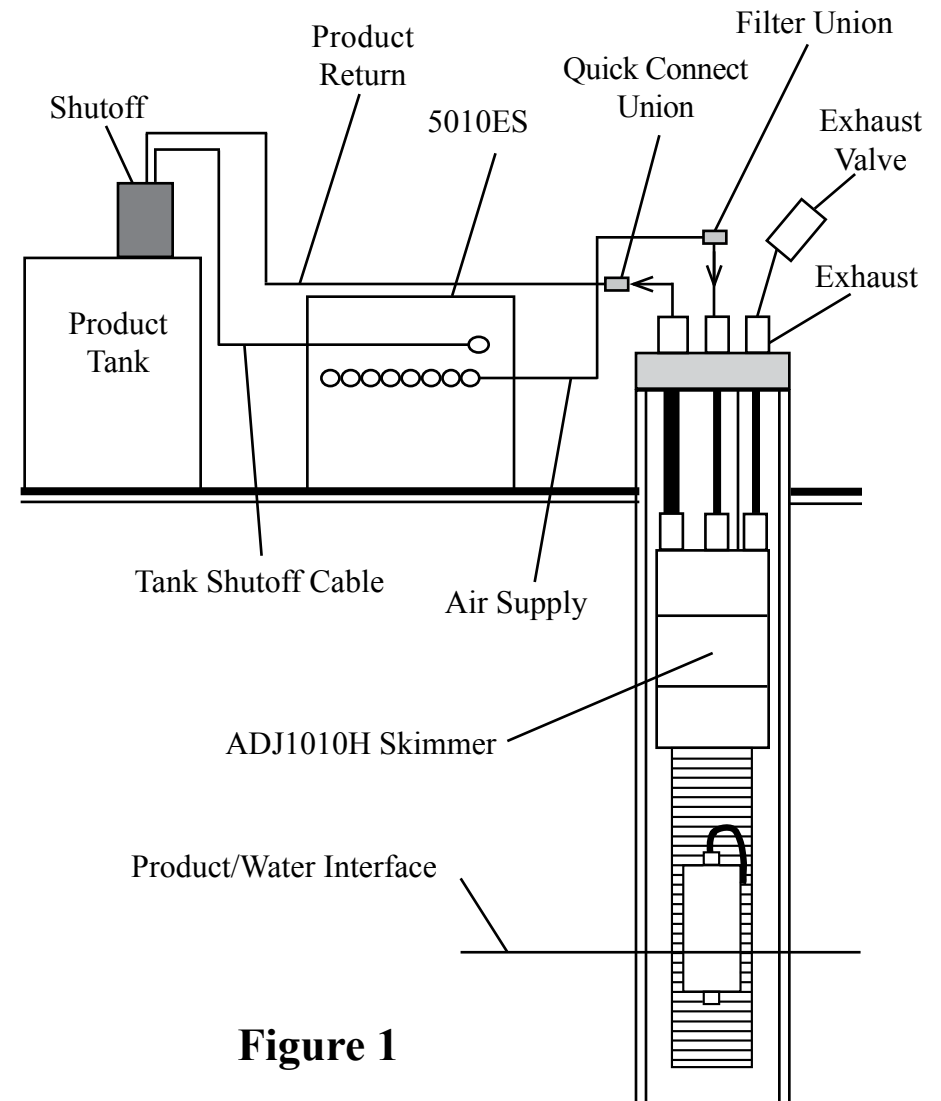
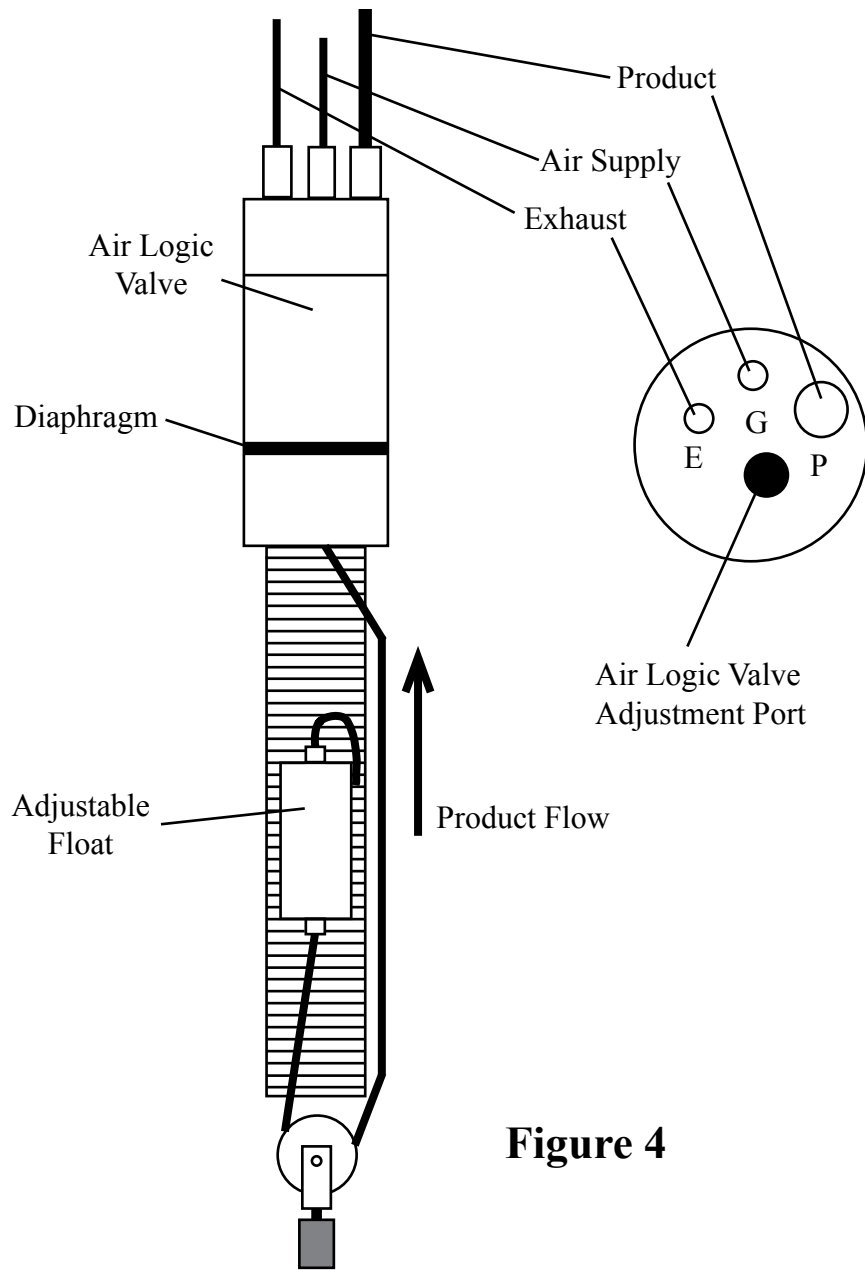

Figure 1
Figure 4
The system (Figures 1 and 2) relates to a heavy oil recovery system for wells four inches in diameter and larger. This system includes: an intrinsically safe ADJ1010H pneumatic Smart Skimmer, with an adjustable float (Figure 4), which removes heavy oil up to 200 feet deep; and a programmable Control Station Model 5010ES which operates up to 8 skimmers intermittently, records run time, and has a high level tank shutoff assembly.
STEP 1. Place programmable Control Station Model 5010ES (Figure 1) near the air source, power source, and holding tank if possible. **CAUTION:** The Model 5010ES is NOT intrinsically safe. If this controller must operate in a CLASS I area, use the XITECH Model 2550ES CLASS I Controller instead.
STEP 2. Install holding tank shutoff assembly into holding tank ( a 2” standard pipe inlet will be required in the holding tank). The level of product in the holding tank can be set by raising or lowering the liquid level float switch rod. Plug the high level shutoff switch cable connector into the left end of the controller (Figure 1).
STEP 3. Attach power line from the AC power source to the right end of the controller (Figure 1). Turn on the controller power switch. If the red “Product Tank Full” light stays on, you have a problem with tank shutoff wiring. Turn off the power switch and re-check the tank shutoff wiring. If the light continues to stay on, call the factory.
STEP 7. Position the skimmer and well cap on the ground near the well. **NOTE:** If the skimmer is over 60 feet deep, use a vented design skimmer. Cut a length of 3/8" OD air supply tubing to cover the distance from the top of the well down to water/product interface, plus 5 feet. Slide enough tubing through the well cap and attach the end of the tubing to the top of the skimmer tube fitting labeled "G" (Figure 4). If the product thickness is greater than 1 foot, position the center of the skimmer screen 1 foot below top of product. If the product thickness is less than 1 foot, position the center of the skimmer screen at the water/product interface.
STEP 8. Cut a length of 1/2" OD product tubing same length as the air supply line. Install 1/2" OD product tubing through the well cap tube fitting labeled "P" (Figure 4). Slide enough tubing through the well cap and attach the end of the tubing to the top of the skimmer tube fitting labeled "P". **CAUTION:** Do not kink the tubing.